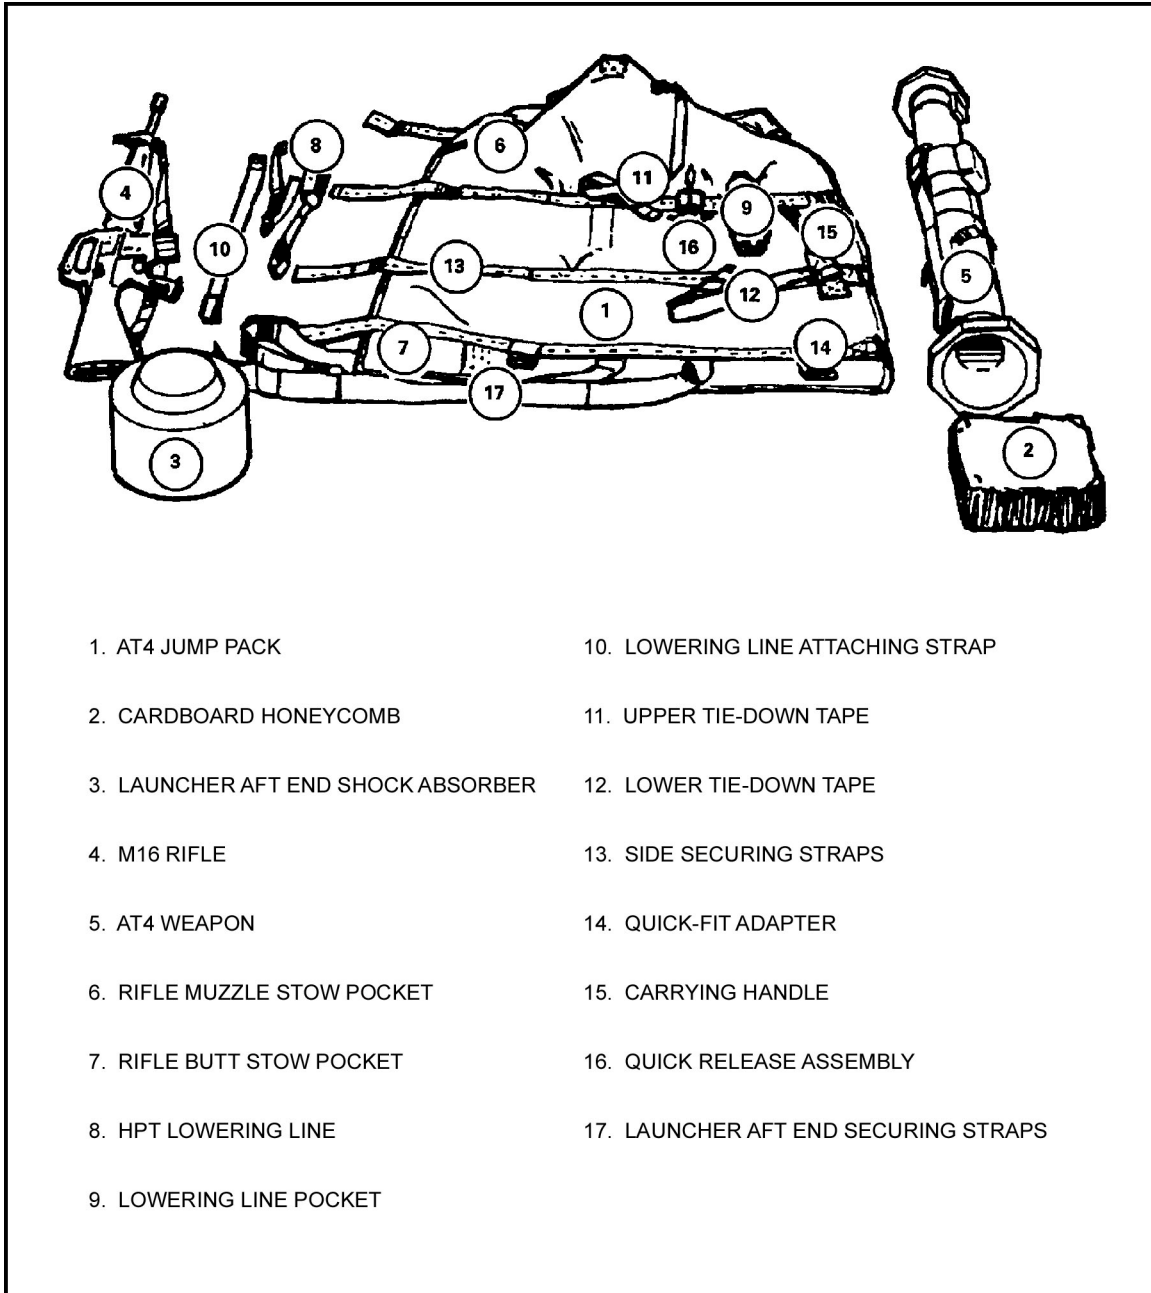

Figure 12-48. AT4 nomenclature.
b. The shock absorber (polyurethane/honeycomb) configuration at the aft end of the jump pack is intended to prevent damage to the AT4 weapon round during ground impact. Upon landing, the parachutist can rapidly gain access to the weapon round and M16/M203 by pulling the quick releases rigged into the jump pack securing straps. The total assembly is shown in Figure 12-48.